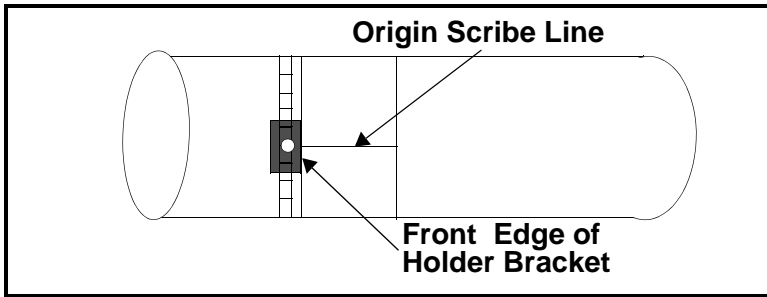

Figure 3-17: Lining up the First Bracket
3. Line up one edge of the CFG-PI holder bracket with the origin scribe line and fully tighten the chain or strap (see Figures 3-17 and 3-18 below).